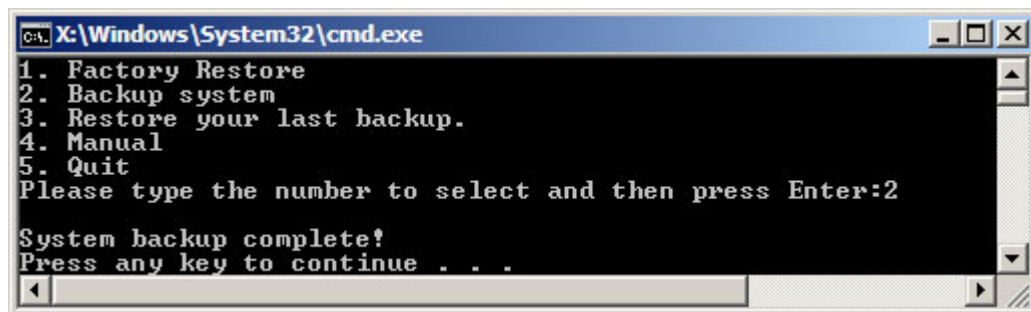

Figure C-38: System Backup Complete Window
Step 3: The screen shown in **Figure C-38** appears when system backup is complete.